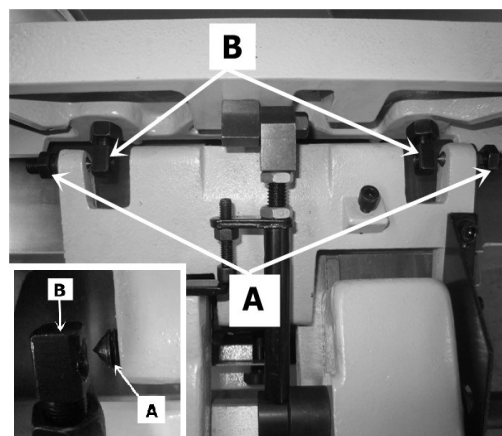

Figure 6
4. Loosen the two cone screws on the fence carriage (A Fig. 6), line up with the two cone nuts on the fence (B Fig. 6).
5. Tighten cone screws while adjusting the flexibility of the fence by tilting th fence. When the fence is secured and also properly flexibe, tighten the nut on cone screws(C Fig. 6).